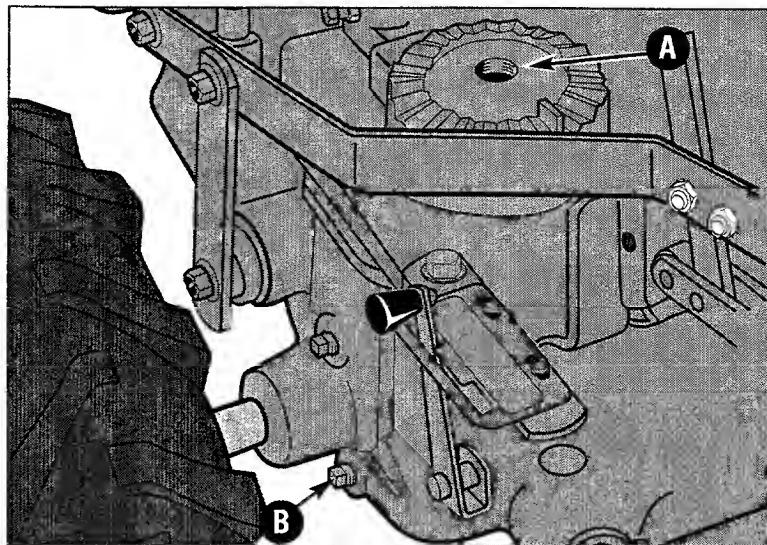

Figure 5-9: Gear oil fill hole (A) and gear oil drain location (B).
Then, unplug the Forward Interlock wire harness receptacle at the bottom of the handlebars. Set the handlebar base and bolt aside on a clean surface. The bolt hole in the top of the transmission is the gear oil fill hole. See Figure 5-9.
- Place a shallow pan under the transmission gear oil drain plug (refer to B, Figure 5-9).
- Using the 3/8" wrench, remove the drain plug (B, Figure 5-9). The gear oil will drain quite slowly since it is thick. After about two quarts have drained, tilt the tiller